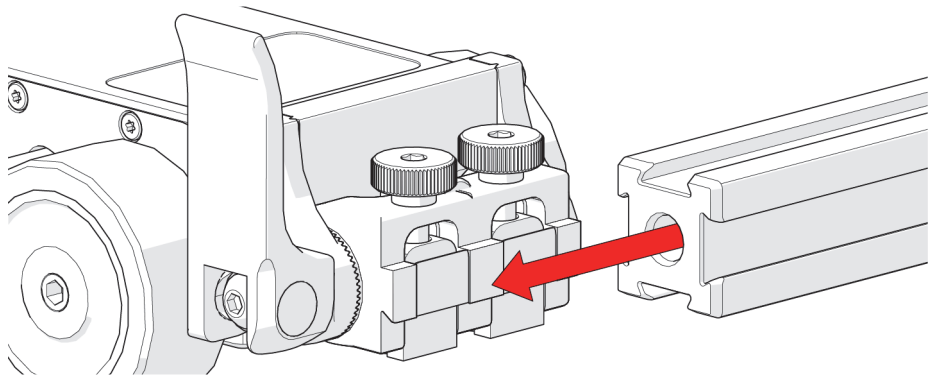

Figure 2-8 Attach the frame bar
2. Mount the frame bar on the dovetail jaw of the pivot mount and tighten the knobs (see Figure 2-8 on page 43). The angle of the frame bar should be adjusted to match the angle of the inspection surface.